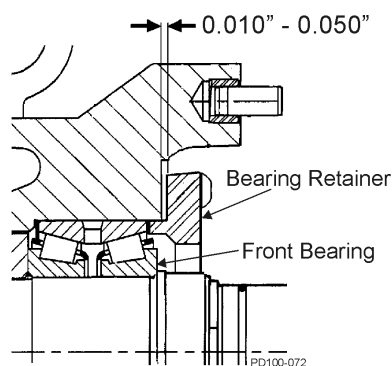

Figure 54 - Bearing Retainer Clearance
5. The bearing retainer must rest firmly against the bearing. Leave a 0.010 to 0.050 in (0.25 to 1.25 mm) clearance between the back of the bearing retainer and the front of the gear case (Figure 54). If this clearance is not met, place shims between the bearing and retainer.